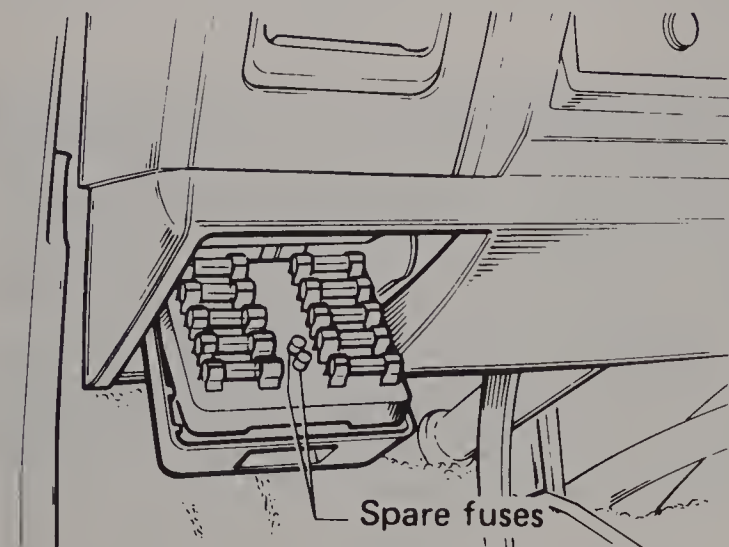

Fig. 10.1 Typical fuse location (Sec 4)
*Refer to Figs. 10.1 and 10.2*